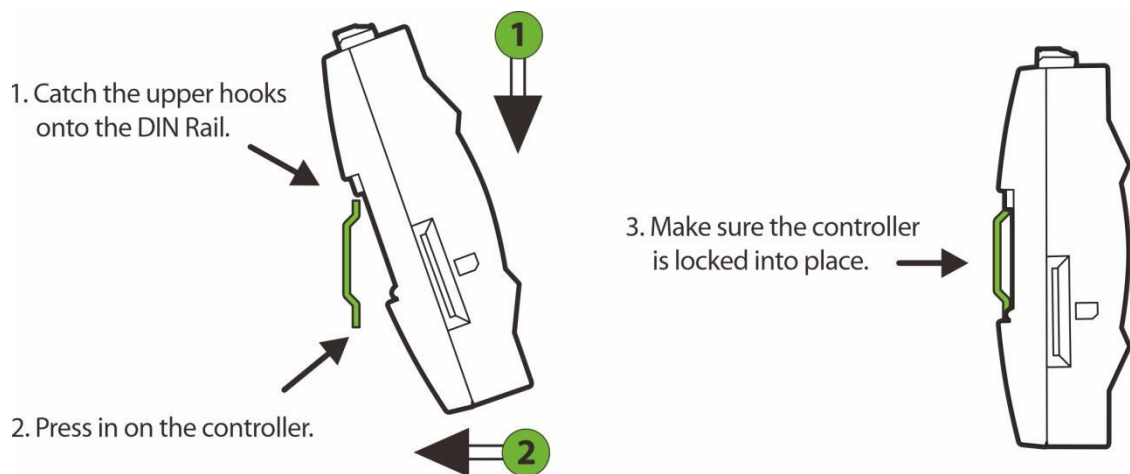

Figure 3-3 Mount the controller to the DIN rail adapter
2. Engage the hooks on the top of the controller with the DIN rail and firmly press the controller onto the rail until it locks into place, as depicted in **Figure 3-3** below.